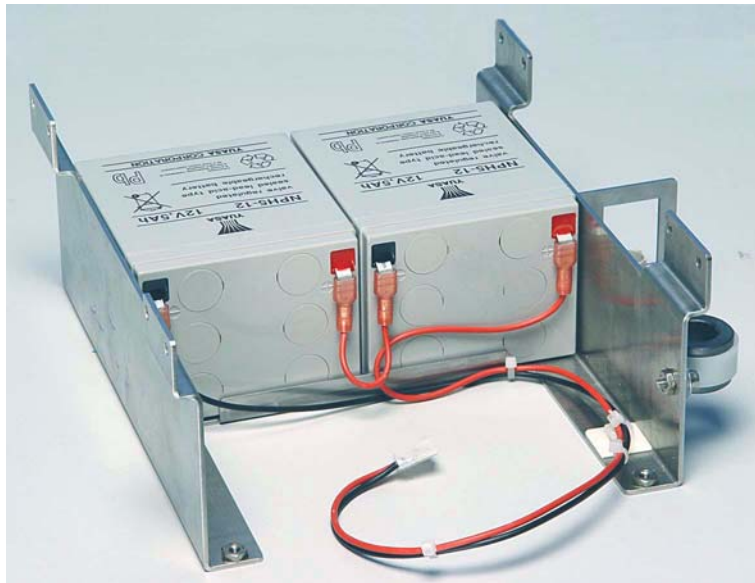

Figure 11-23. The backup batteries in the chassis
10. The backup batteries are now revealed. (Figure 11-23.)